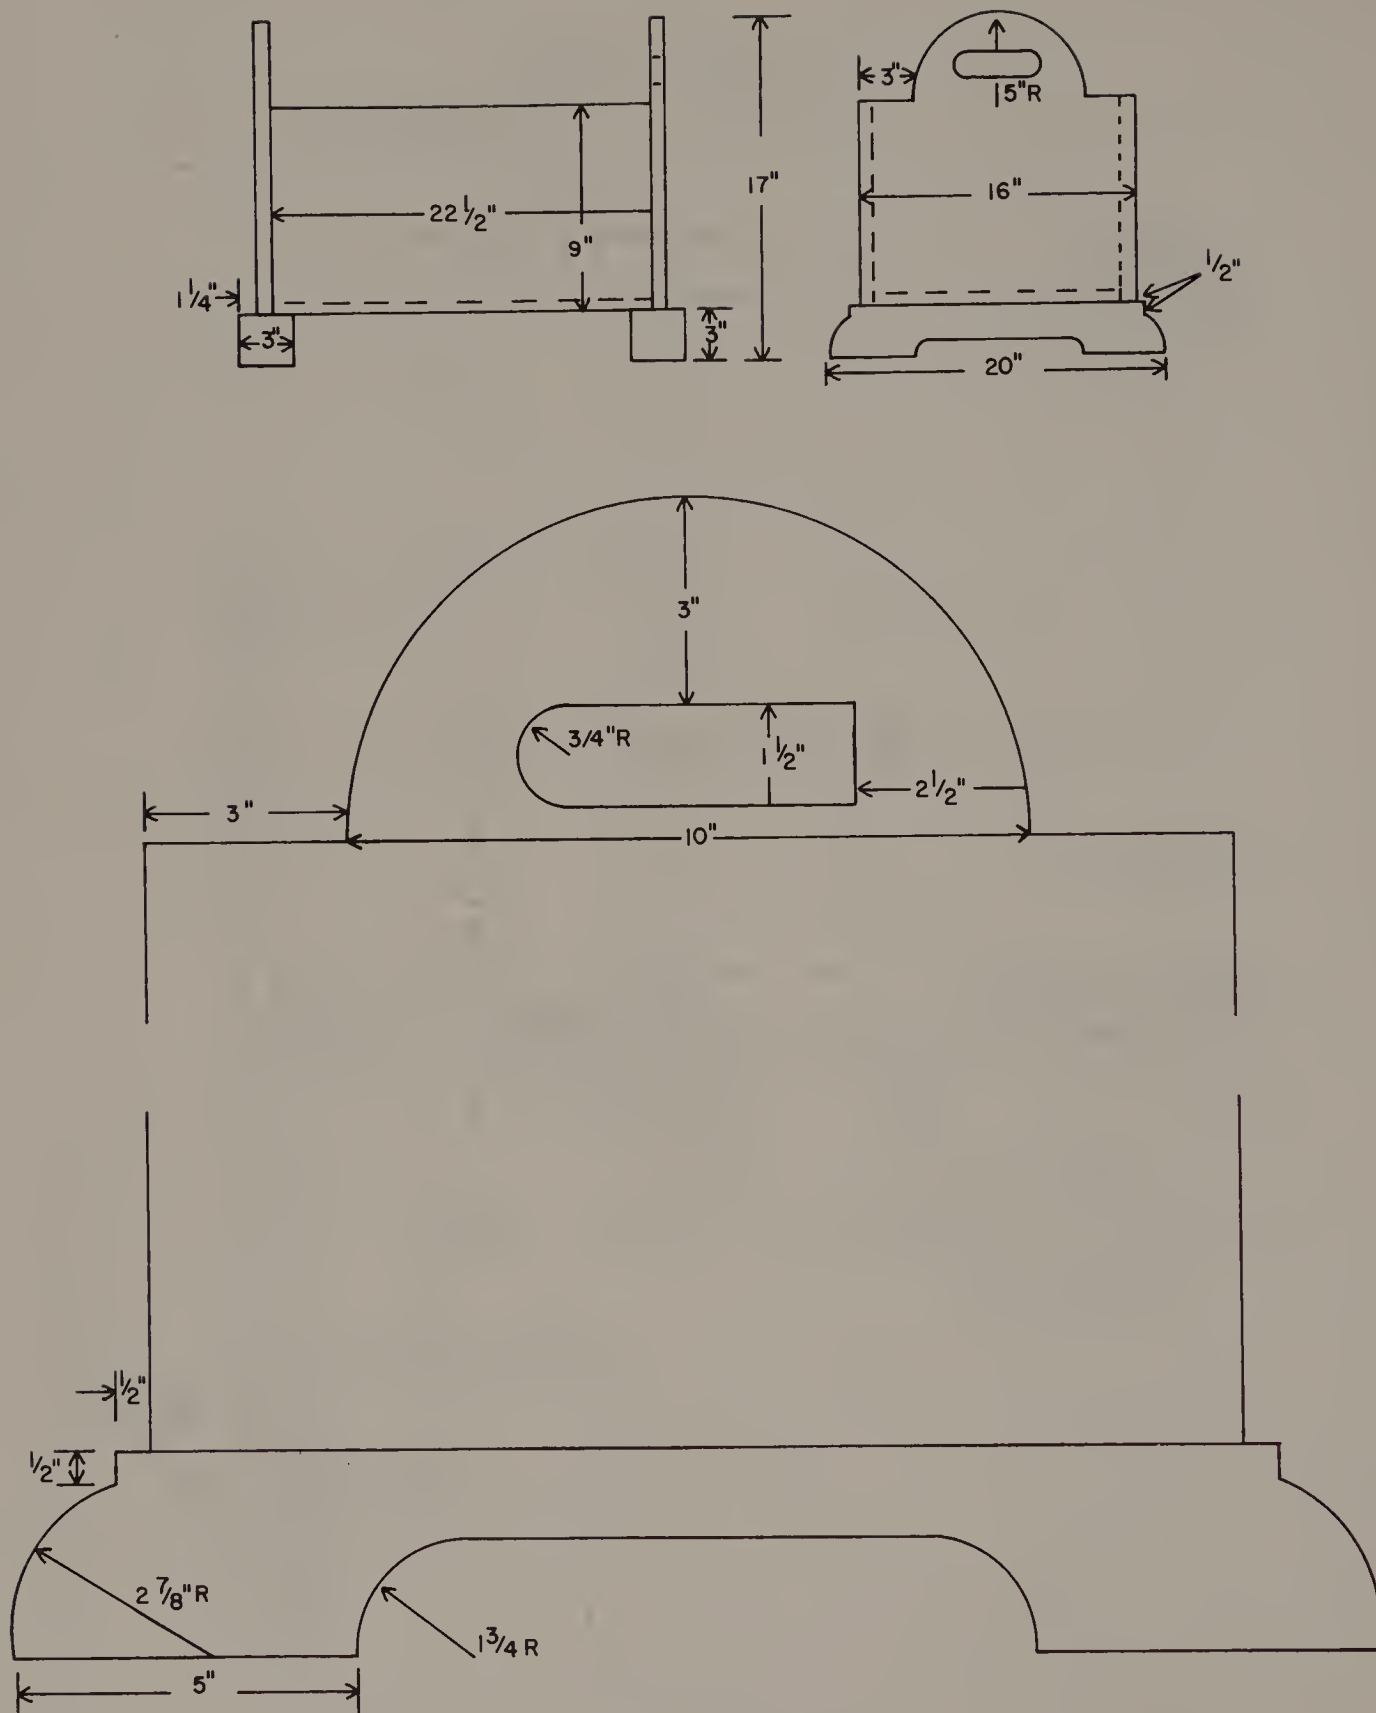

Fig. 8-7 The log box is a perfect accessory for the fireplace or wood stove.
The log box shown in Fig. 8-7 was designed to handle logs for a woodburning stove, but the dimensions can be changed, as far as length, to accommodate the size of logs you use. Refer to Fig. 8-7 and Table 8-6 for plans and dimensions of the log box.
- ☐ Lay out and cut the feet from the size of stock shown in the plans and from the detail plan shown in Fig. 8-7. Sand your cuts smooth and you are ready to start your assembly.